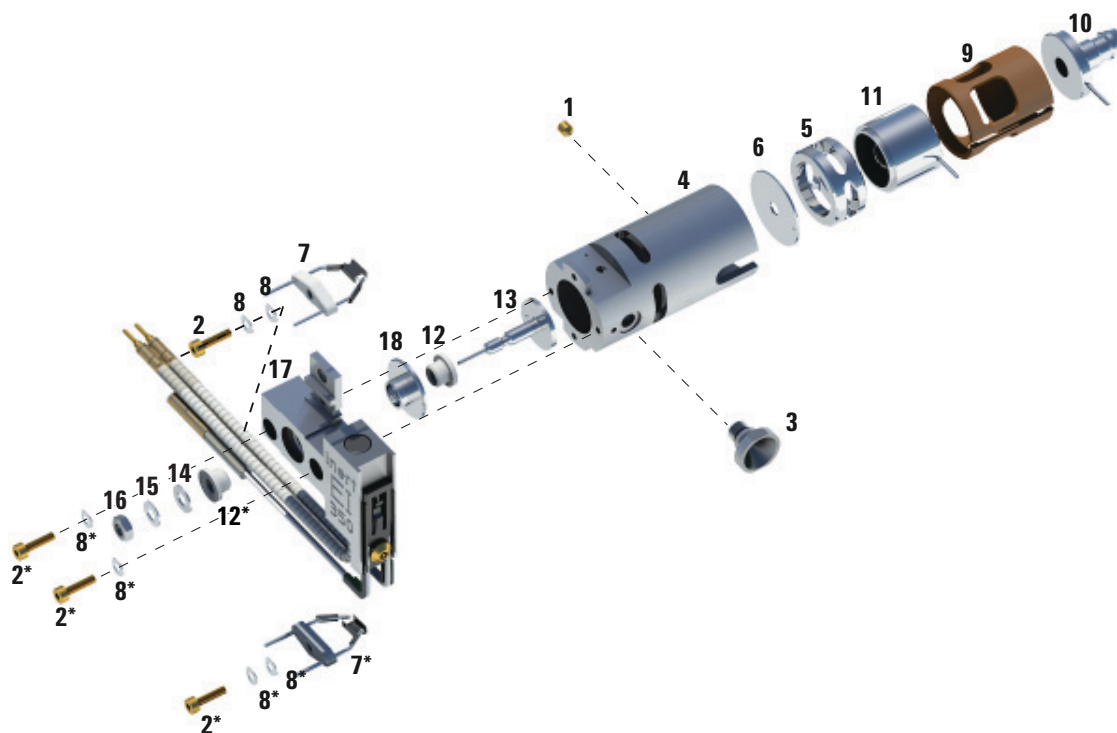

Figure 67. Assembling the EI standard or EI Inert source
Refer to the exploded parts view **Figure 67** and EI SS and EI Inert parts list **Table 22** on page 210 while using this procedure.
Table 22 Parts list for the EI standard or EI Inert source (Figure 67)
**Table 22 Parts list for the EI standard or EI Inert source (Figure 67) (continued)**